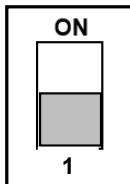

Fig. 3
- Ensure the dip switch is set to the required emergency mode, ON indicates standard mode and 1 indicates self-test mode (see Fig. 3)